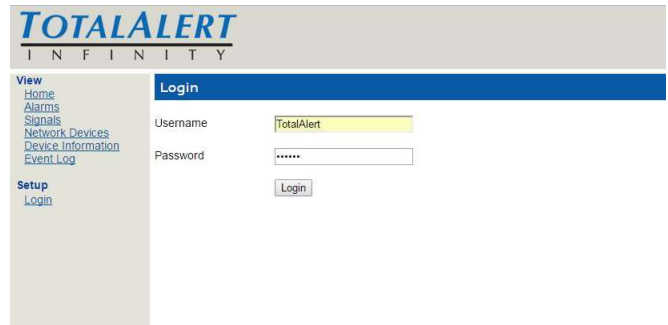

Figure 233
2. The web browser will request a username and password (Figure 233). The factory defaults are: